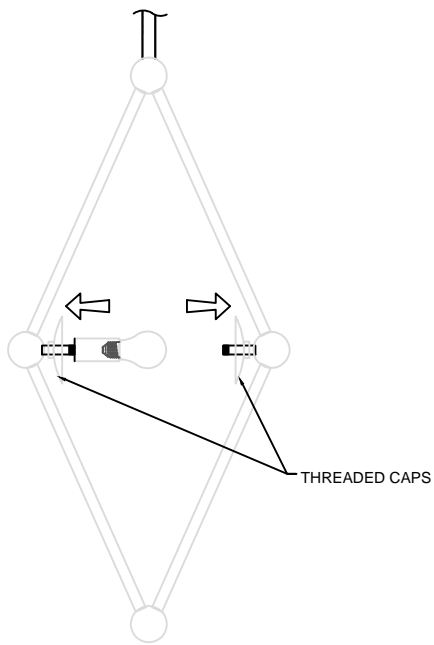

FIGURE-04
9. Loosen the threaded caps and place them on the corners. (See Figure -04)